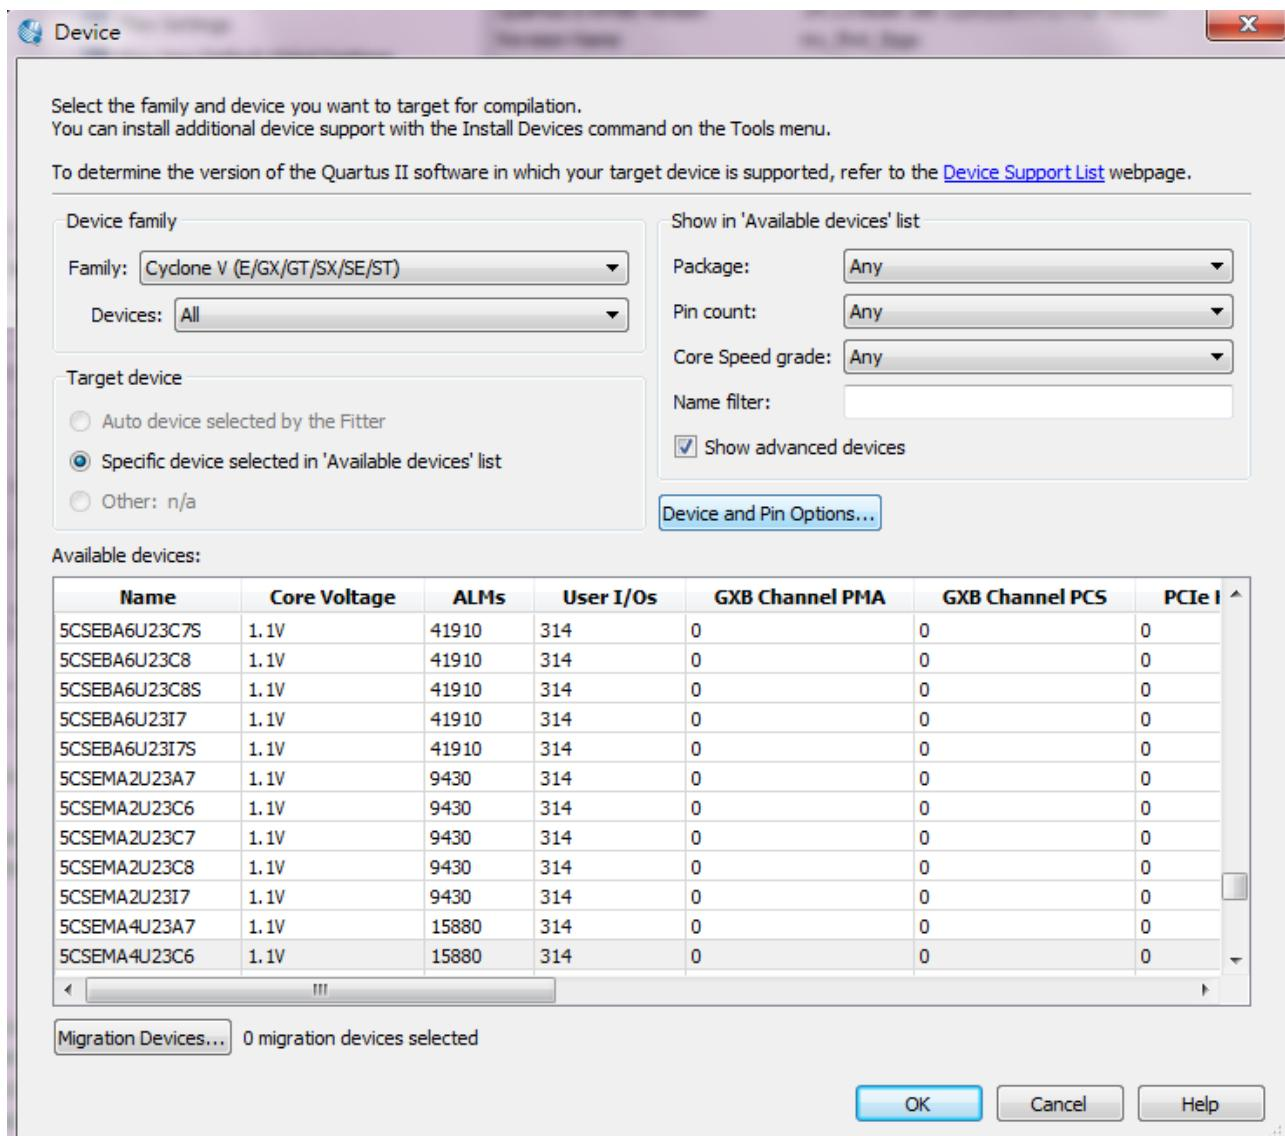

Figure 4-8 Device and Options
3. If other LEDs emit faintness light, Choose Assignments > Device. Click Device and Pin Options. See Figure 4-8.